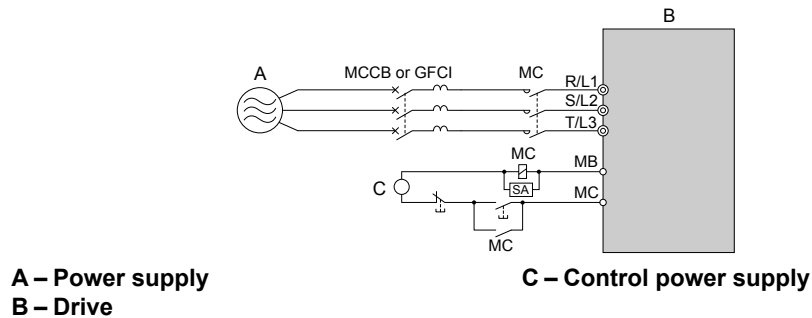

Figure 8.10 Power Supply Interrupt Wiring (Example)
- If several drives are connected to one MCCB or GFCI that is shared with other equipment, use a sequence that shuts the power OFF when errors are output by using magnetic contactor (MC) as shown in Figure 8.10.